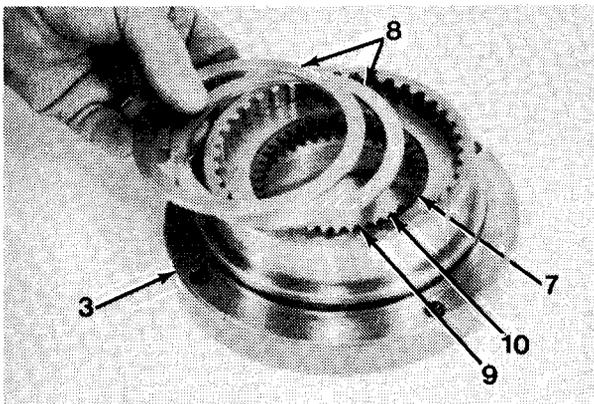
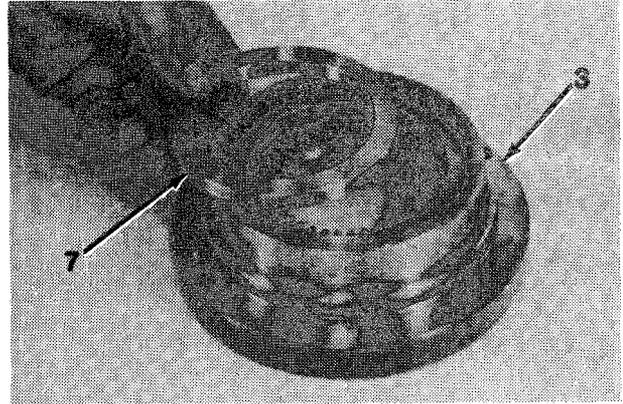
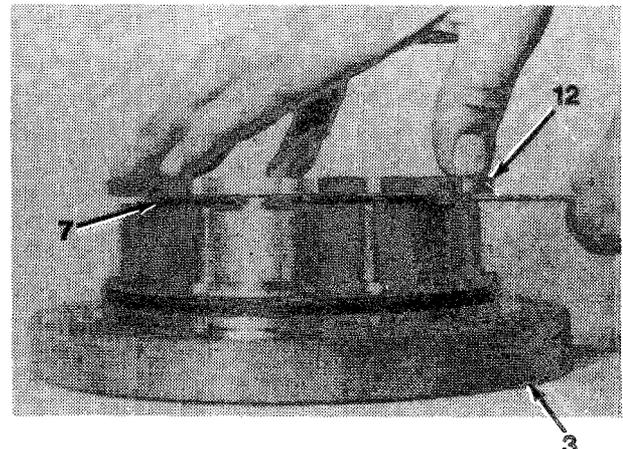

Figure 16-10
Figure 16-11
Figure 16-12
3. Install one of six brake discs (10) against spacer (7) followed by one of five friction discs (9). Install remaining five of six brake discs (10) and friction discs (9), alternately, ending with brake disc (10, Figure 16-10) on top.
4. Install two brake spacers (8) in motor support (3) on brake disc (10).
5. Install remaining spacer (7) in motor support (3, Figure 16-11).
6. Check brake stack height by placing pressure plate (12) on top of spacer (7, Figure 16-12), holding pressure plate (12) down firmly by hand.
7. Measure clearance in three places between motor support (3) and pressure plate (12). Average gap must be between 0.153 in. (3.88 mm) maximum and 0.080 in. (2.03 mm) minimum. If gap exceeds maximum limit, there are too many brake discs (10, Figure 16-10) in stack or brake discs (10) are distorted. If gap is less than minimum, there are too few brake discs (10) in stack or friction discs (9, Figure 16-12) are worn. Corrective action must be taken to obtain required gap.
8. Remove pressure plate (12, Figure 16-12) when stack height is correct.